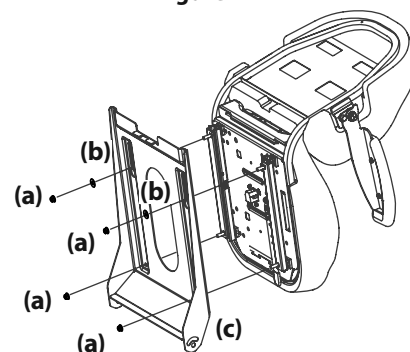

Figure 5
- b. For a Lever Adjust seat use flange lock nuts (a) and flat washers (b). See Figure 5.